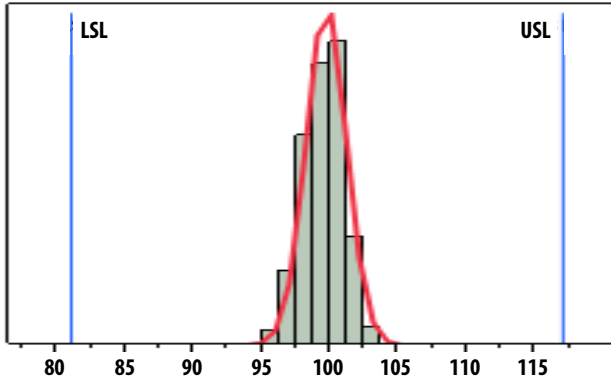

Figure 1. Idd, LSL = 81 mA, nominal = 100 mA, USL = 117 mA
RF performance at T_A = 25° C, V_{dd} = 5 V, 1980 MHz, measured on demo board in Figure 1 with component listed in Table 1 for DC bypass.
1. Measurements at 1980 MHz obtained using demo board described in Figure 1.